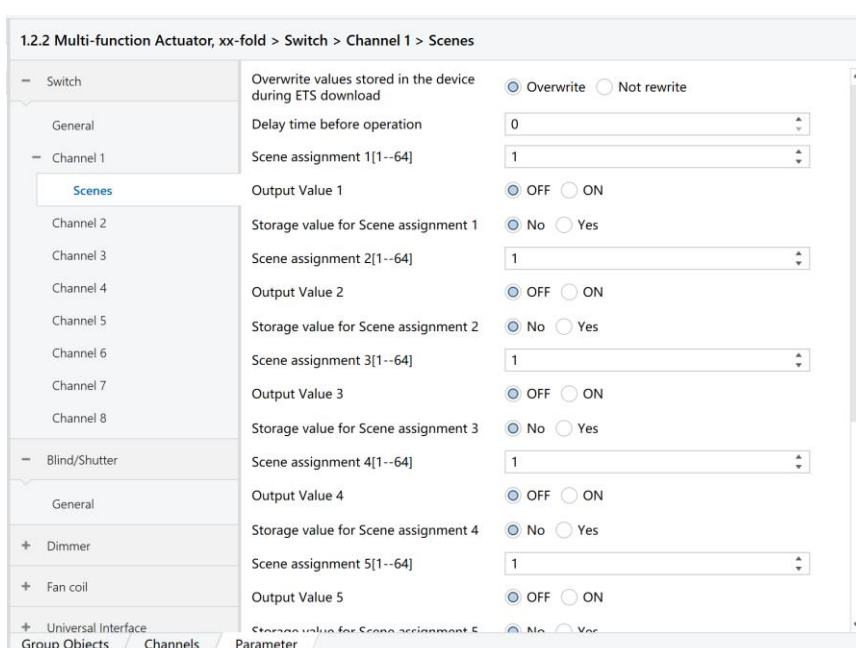

Figure 6.1.4
8-bit scene control	Options: Enabled, Disabled. When choose “Enabled”, the “scene” option appears on the corresponding channel on the left side of the interface, click “scene”, and the interface is switched as shown in Figure 6.1.4. The function configuration in the interface is as follows: 1. “Overwrite values stored in the device during ETS download”, Options: ①Overwrite, ②Not rewrite; 2. “Delay time before operation”, Options: 1-127 3. “Scene assignment 1-64”, can be set to 1-64; 4. “Output Value”, Options: On, Off; 5. "Storage value for Scene assignment X" indicates the scene learning function of scene number X,
8-bit scene control	Options: Enabled, Disabled, when you choose “Enabled”, The “scene” option appears on the corresponding channel on the left side of the interface, click “scene”, and the interface is switched as shown in Figure 6.1.4 above. The function configuration in the interface is as follows: 1. Overwrite values stored in the device during ETS download, Options: ①Overwrite, ②Not rewrite; 2. Delay time before operation, Options: 1-127s; 3. Scene assignment 1- 64; 4. Output Value, Options: On, Off; 5. Storage value for Scene assignment X, (X:1~64). Options: No, Yes. E.g.: when Channel 1 and Channel 2 select "1" in the parameter "Scene assignment 1[1-64]" and select "Yes" in "Storage value for Scene assignment 1", the communication object is group address 3/1/1 For example, after downloading data is completed, manually operate CH1 and CH2 on the execution module to be On, enter the group address 3/1/1 at the "Diagnosis" on the ETS, and then select "Learn" in "Value", Select "1" for the scene number and send it on the bus, then the scene number "1" will learn the status of actuators CH1 and CH2 On.
8-bit scene control	Options: Enabled, Disabled, when you choose “Enabled”, The “scene” option appears on the corresponding channel on the left side of the interface, click “scene”, and the interface is switched as shown in Figure 6.1.4 above. The function configuration in the interface is as follows: 1. Overwrite values stored in the device during ETS download, Options: ①Overwrite, ②Not rewrite; 2. Delay time before operation, Options: 1-127s; 3. Scene assignment 1- 64; 4. Output Value, Options: On, Off; 5. Storage value for Scene assignment X, (X:1~64). Options: No, Yes. E.g.: when Channel 1 and Channel 2 select "1" in the parameter "Scene assignment 1[1-64]" and select "Yes" in "Storage